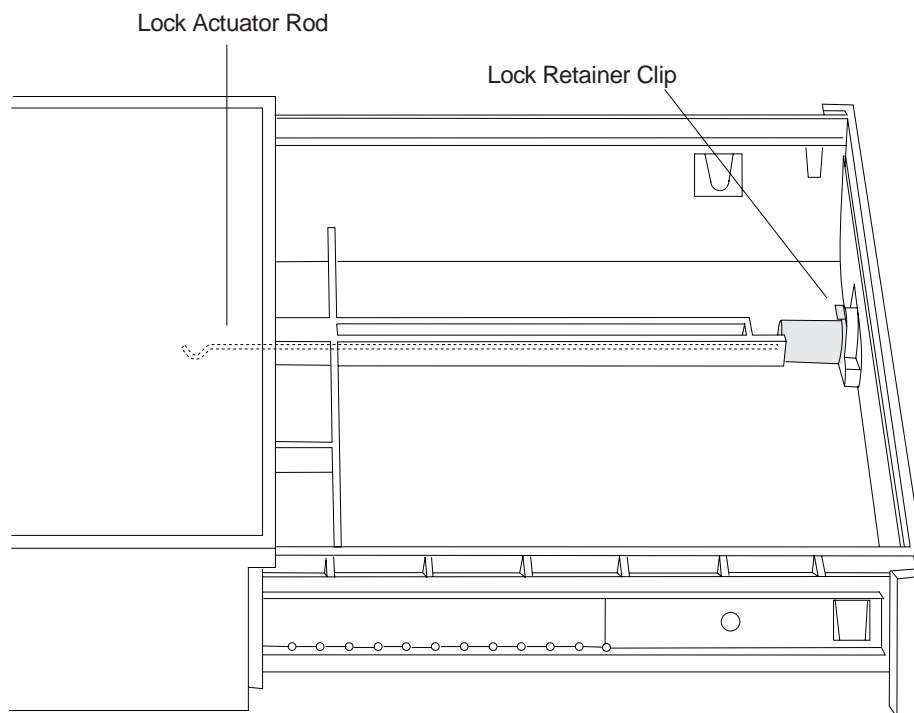

Figure 69. Keylock assembly
2. Remove the lock retainer clip holding the keylock assembly on the inside of the drawer (see Figure 69).
1. Ensure that the lock actuator rod is in the position shown in Figure 69.